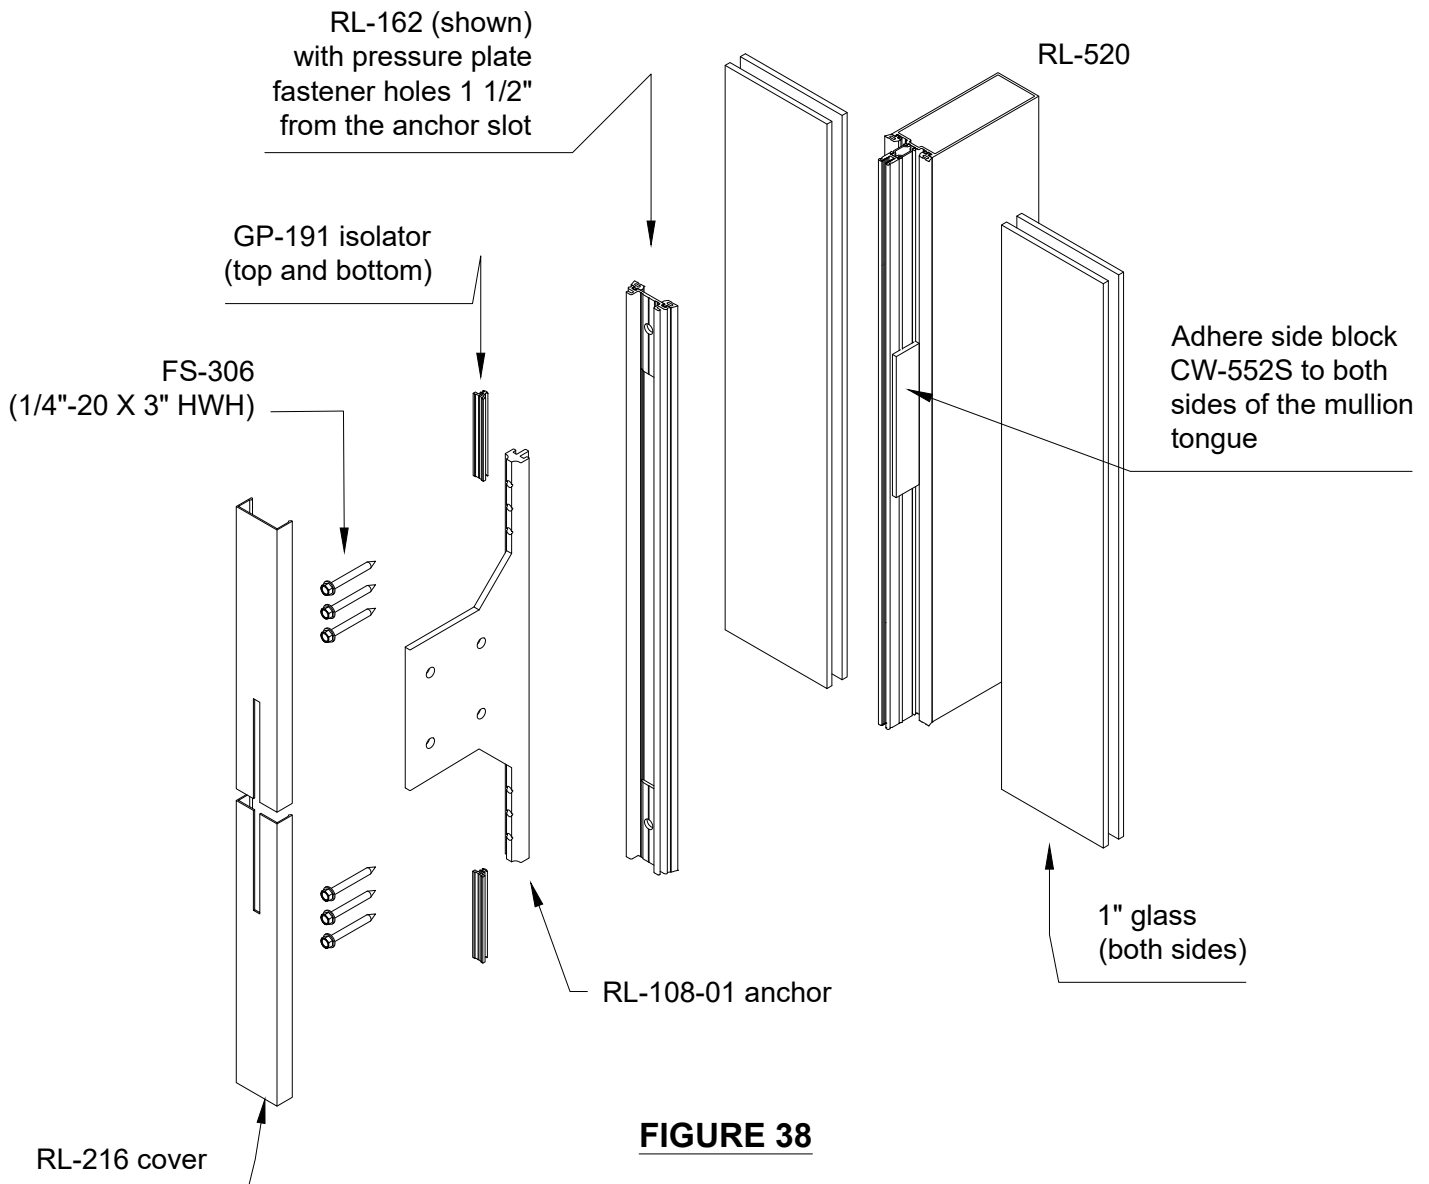

FIGURE 38
- 3) Notch the center of the pressure plate 17.5" x 0.8235" centered for each anchor. Drill extra pressure plate holes 1-1/2" beyond the notch. SEE FIGURE 38.
- 1) Adhere CW-552S side block on both sides of mullion tongue at the c/l of the anchor prior to installing glass. SEE FIGURE 38. Glaze as shown in Reliance-TC LT Install manual, centering slotted pressure plates at sunshade anchors. Do not install covers.
- 2) Once system is glazed, attach anchor in the appropriate position with (6) six FS-306 (1/4"-20 X 3" HWH) fasteners into the front aluminum tongue of the mullion SEE FIGURE 38. Torque anchors until the anchor is flush with the mullion tongue. (Size, locations and quantity of bolts may vary based on project requirements. Consult engineer for specific applications).